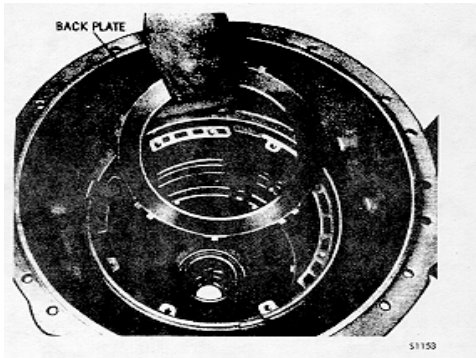

Fig. 5-18. Removing second clutch backplate
(3) Remove the second clutch backplate (fig. 5-18).